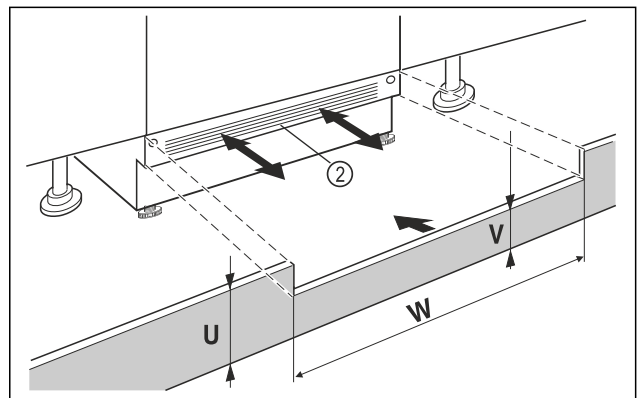

Fig. 72 Example illustration
- Put on the appliance base cover Fig. 72 (2) but do not fix it yet.
- If the base cover Fig. 72 (2) is visible, pull it so far forward that the front edge of the ventilation grille and the unit base cover form one level.
- If the base cover is concealed Fig. 72 (2), push it all the way back.
- Ensure that the ventilation slots are completely free: If necessary, cut the height of the unit base cover *Fig. 72 (U)* to size!
- Adjust the bar height *Fig. 72 (V)* under the appliance base cover *Fig. 72 (2)* along the recess width *Fig. 72 (W)*.